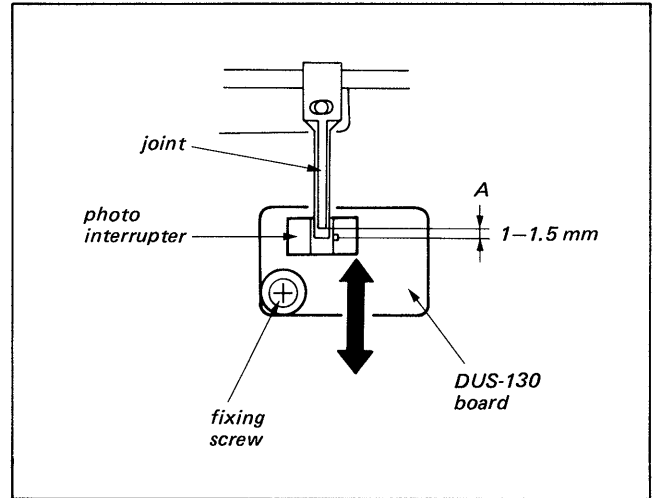

Fig. 3-1
4. Adjust the position of DUS-130 board in the direction shown by the arrow in Fig. 3-1 so that the space A meets 1 to 1.5 mm.